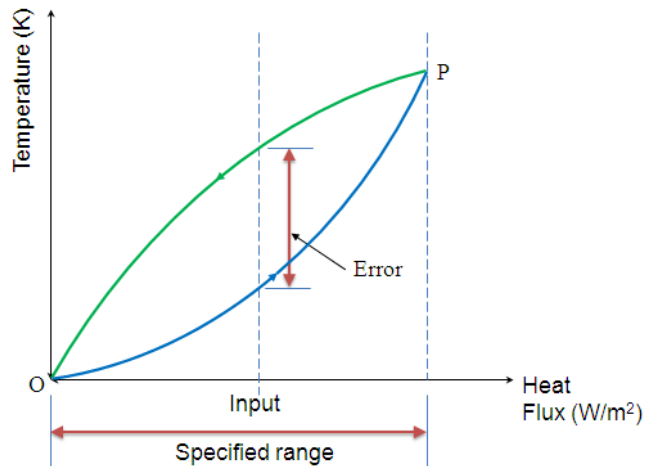

Fig. 2.2 Hysteresis
- vi) **Hysteresis:** The hysteresis is an error of a sensor, which is defined as the maximum difference in output at any measurement value within the sensor's specified range when approaching the point first with increasing and then with decreasing the input parameter. It is shown in fig. 2.2